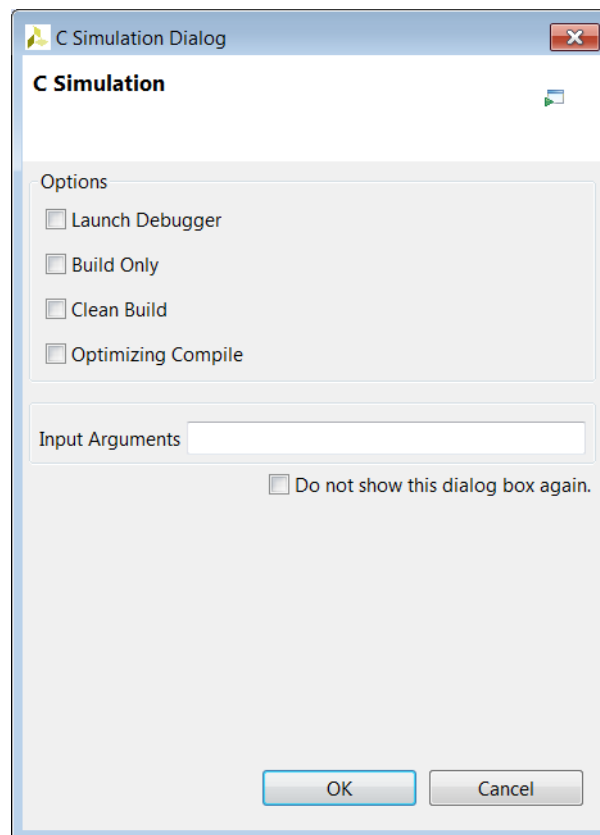

Figure 3-5: Run C Simulation Dialog Box
- Click the **Run C Simulation** toolbar button to open the C Simulation Dialog box, shown in Figure 3-5.